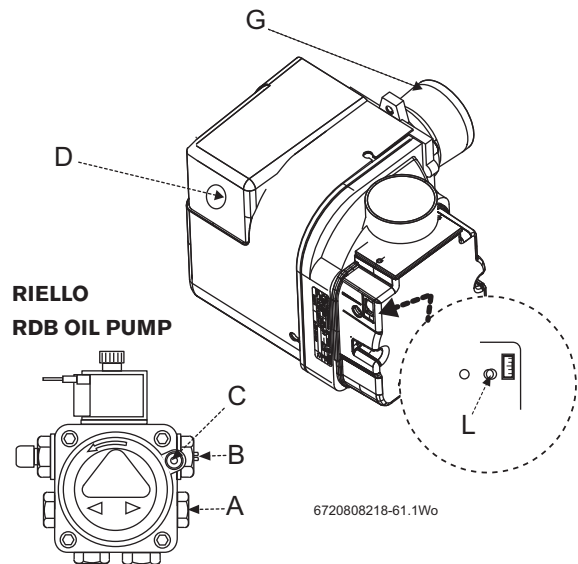

Fig. 71
- ▶ Wait 2 minutes then press the lockout reset button D (\rightarrow figure 71) to initiate another start sequence.
- ▶ Release the burner retainer nut (F).
- ▶ Check for after-spurting from the nozzle, indicated by oil saturation on the combustion head (\rightarrow item G, figure 71).